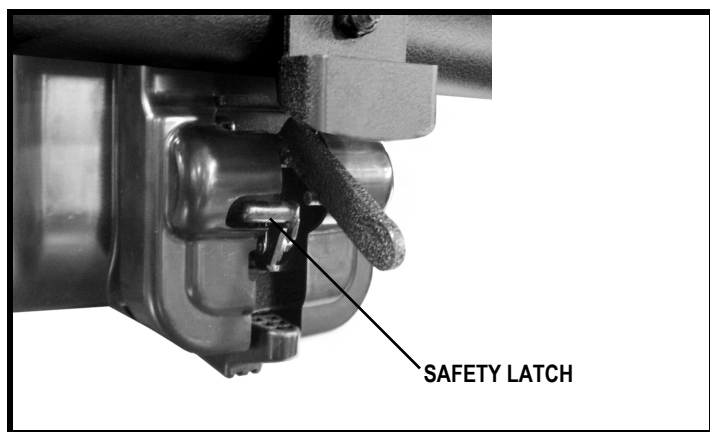

Figure 8. Freewheel Mode (Drive Disengaged)
1. Push the safety latch in and pull up the manual freewheel lever for freewheel mode (drive disengaged). See figure 8.